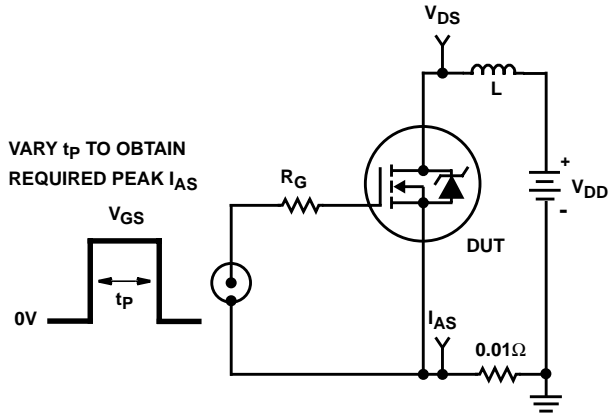

FIGURE 15. UNCLAMPED ENERGY TEST CIRCUIT
4. $V_{DD} = 50\text{V}$, starting $T_J = 25^\circ\text{C}$, $L = 1.5\text{mH}$, $R_G = 25\Omega$, peak $I_{AS} = 30\text{A}$. See Figures 15 and 16.